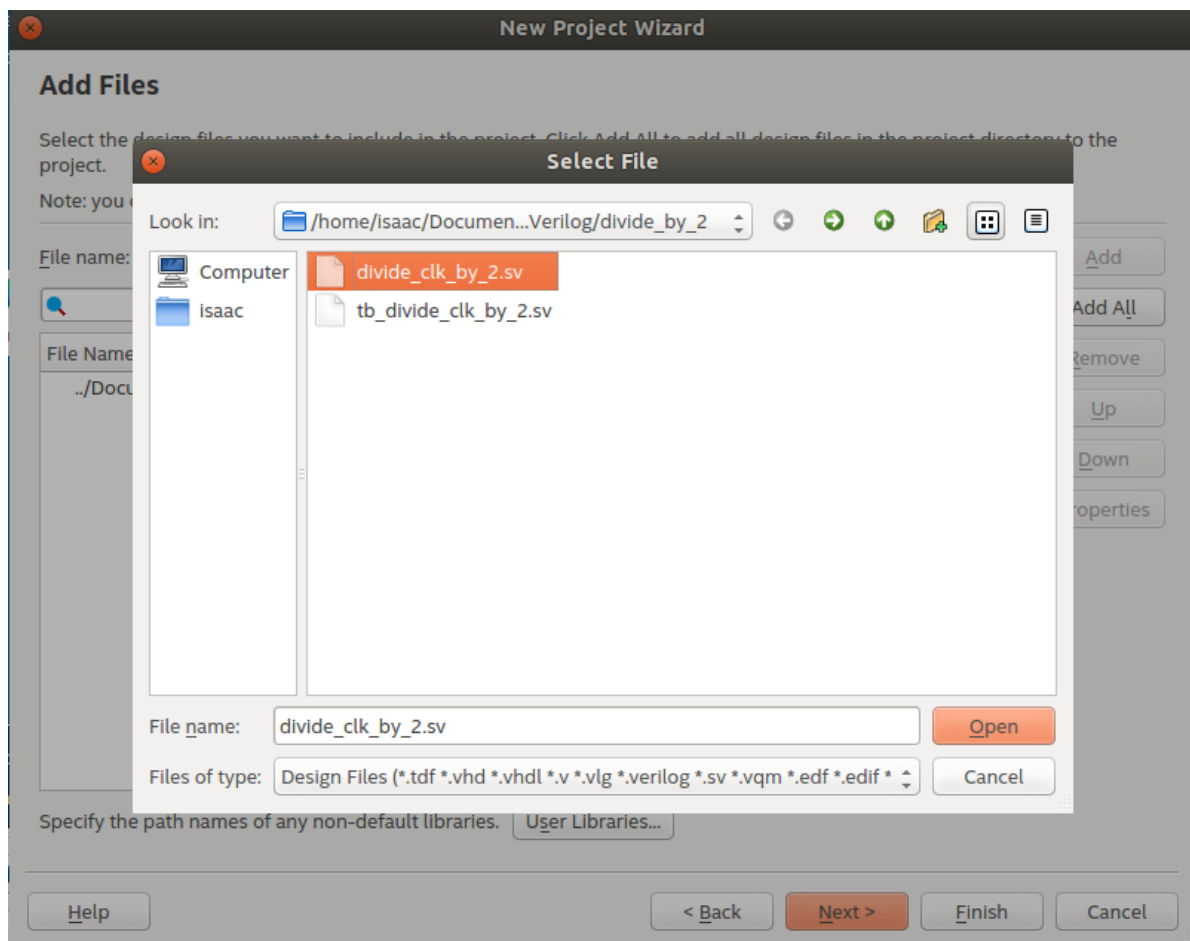

Figure 20: Adding files.
6. When prompted to add files, browse to the location of the downloaded files and select `divide_clk_by_2.sv`, as shown in Figure 20. Notice that testbenches are not synthesizable, as a result of this, we can simply omit our testbench.